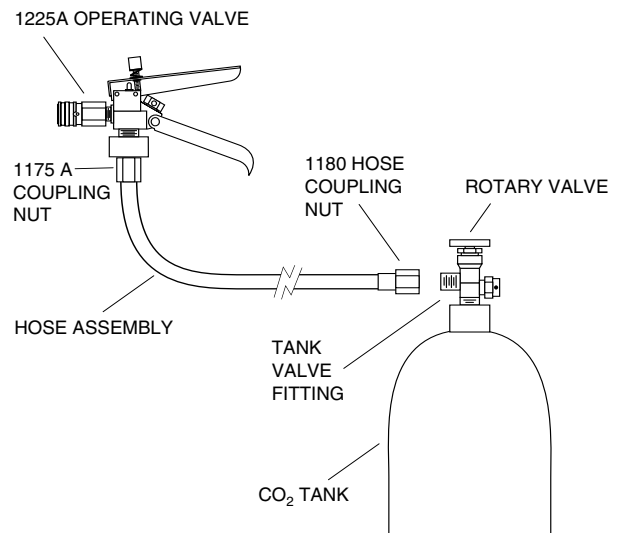

Figure 2
**ATTACH THE 1105A OPERATING VALVE AND HOSE ASSEMBLY** to a 20 or 50 pound CO2 tank. Thread the hose coupling nut "hand tight" onto the tank valve. See Figure 2.